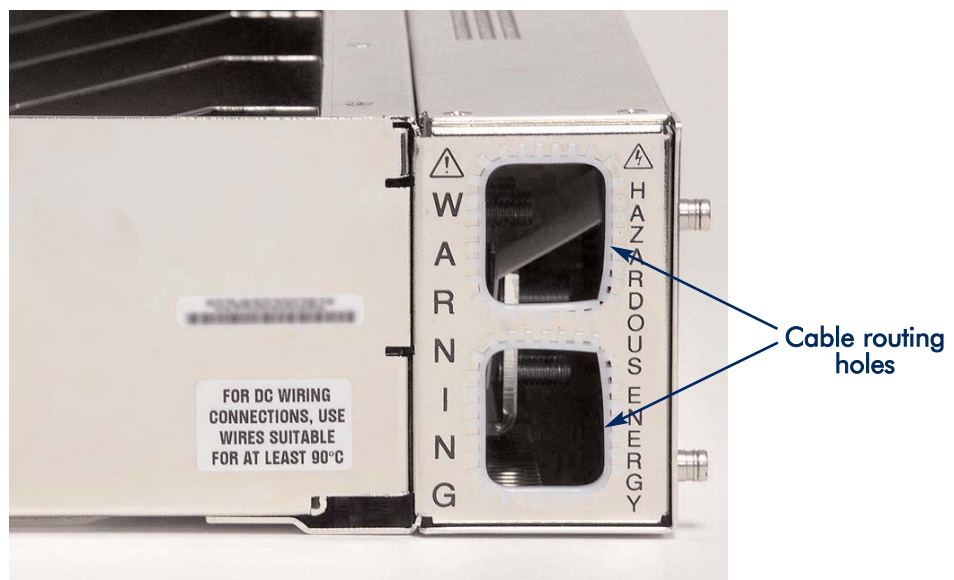

Figure 11 - Cable routing holes
Route DC cables out the side of the rack through the cable routing holes seen in Figure 11.
- The pin out of the alarm connector on the rack is a 180° difference from a standard Molex connector. See Figure 11 & Figure 12.